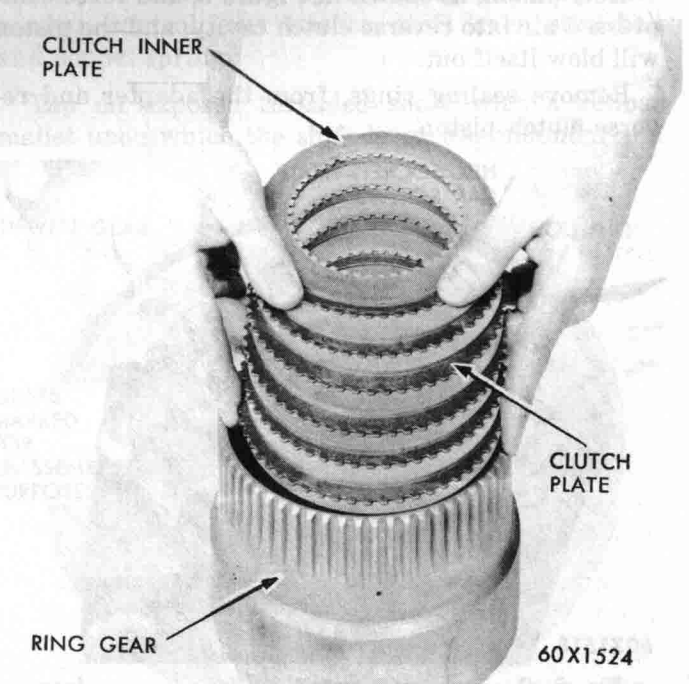

Fig. 14—Removing or Installing Forward Clutch Plates
Remove seven clutch inner plates and six clutch plates, as shown in Figure 14.
**NOTE: All plates must be lubricated before assembly (Fig. 14).**